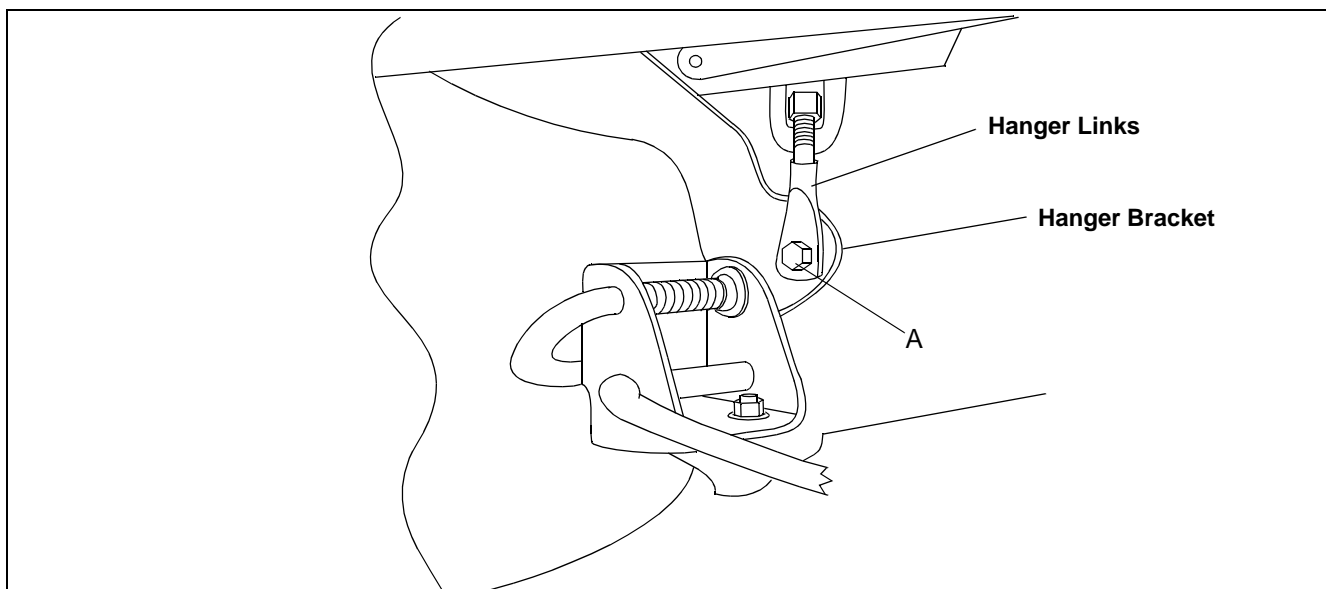

Figure 21
2. Pull J-Rod out to release hanger bracket and turn J-Rod until J-Rod is against outside of bracket. (Both Sides) (See Figure 21)
1. Remove the nut and bolt (A) that holds the hanger link to the hanger bracket on the side that is low. (See Figure 21)
1. Remove the nut and bolt (A) that holds the hanger link to the hanger bracket on the side that is high. (See Figure 21)